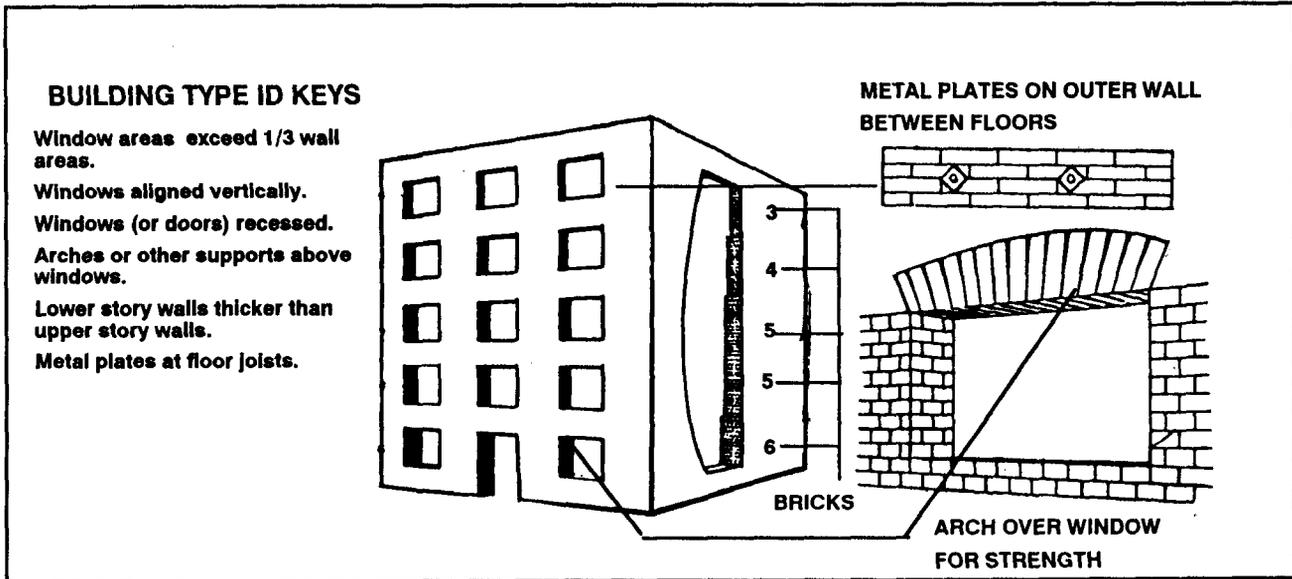
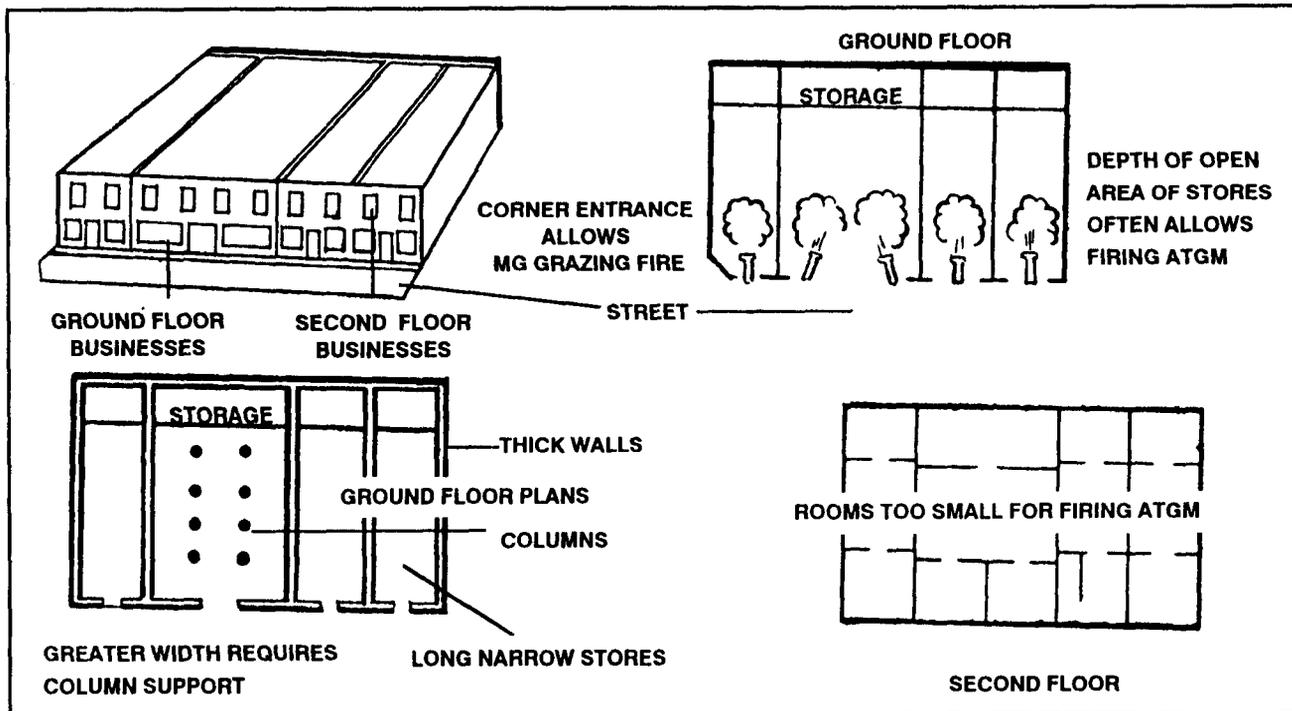

Figure H-2. Brick buildings.
Figure H-3. Brick store.
a. Brick buildings are the most common and most important of the mass-construction buildings. In Europe, brick buildings are commonly covered with a stucco veneer so that bricks do not show (Figure H-2). One of the most common uses of brick buildings is the small store. These buildings are found in all built-up areas but are most common in the core periphery (Figure H-3).